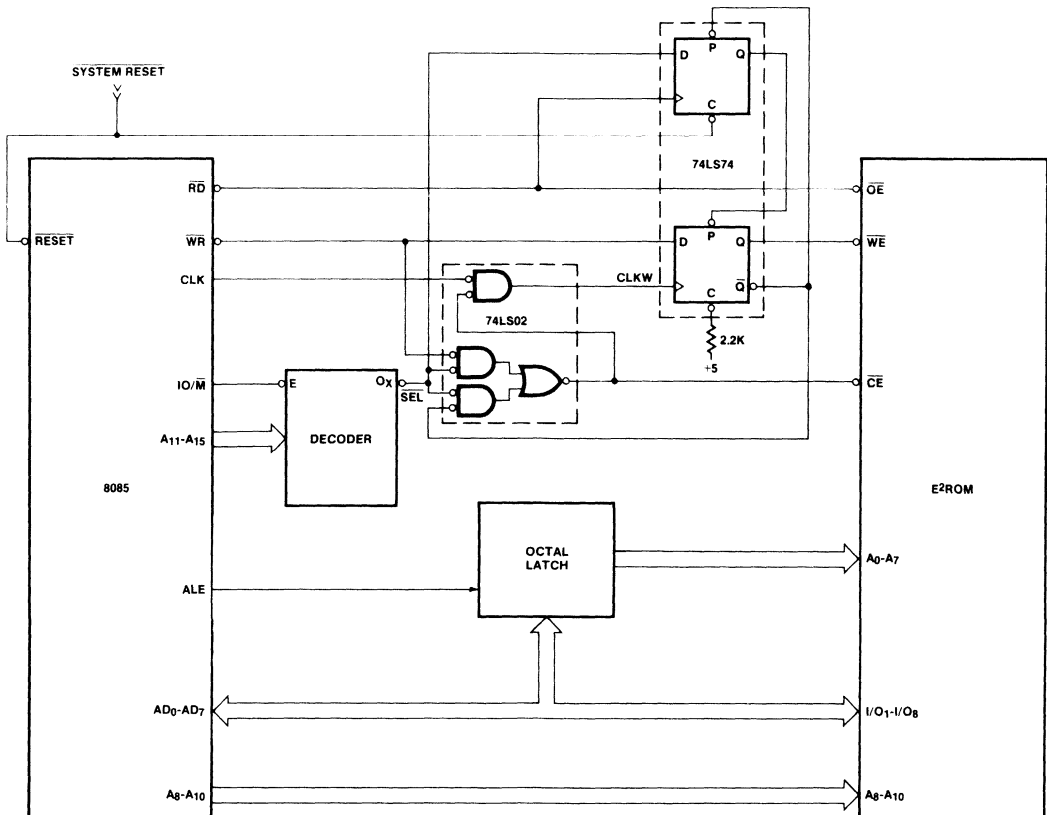

Figure 6. 8085/E2ROM Interface
The schematic for the 8085 interface to a timer or latched E2ROM device is shown in Figure 6. This interface consists of one each of a 74LS02 and 74LS74 type package and allows the system designer to use the WR signal from the 8085 to initiate the write cycle to the E2ROM device. The design permits use of either a timer
The basic write operation waveforms for this interface are shown in Figure 8. The write cycle begins with the addresses becoming valid and being decoded to drive  $\overline{\text{SELECT}}$  active low, in order to drive the  $\overline{\text{CHIP ENABLE}} (\overline{\text{CE}})$  active low at the  $\text{E}^2\text{ROM}$  device pin (selecting the desired device) (see (A) in Figure 6). An active low level on  $\overline{\text{WR}}$  from the 8085 (indicating a write cycle initiation) allows the  $\overline{\text{WRITE ENABLE}}$  latch of the interface to be clocked by the next falling edge of the 8085 clock output (CLK) (see (B)). Addresses, data, and control inputs to the latched type  $\text{E}^2\text{ROM}$  are latched in at the falling edge of  $\overline{\text{WRITE ENABLE}} (\overline{\text{WE}})$  — shown as (B) in Figure 8. For the timer type  $\text{E}^2\text{ROM}$  device, however, data is latched on the rising edge of  $\overline{\text{CHIP ENABLE}} (\overline{\text{CE}})$  — shown as (C) in Figure 8. Note that  $\overline{\text{CE}}$  is held active low for a relatively short period of time, while  $\overline{\text{WRITE ENABLE}} (\overline{\text{WE}})$  is held low
To end the write cycle, the 8085 issues a Read command to the  $\text{E}^2\text{ROM}$  device. This read cycle enables the Write Reset latch which in turn presets the  $\overline{\text{WRITE ENABLE}}$  latch (shown in Figure 6). The preset to the  $\overline{\text{WE}}$  latch brings  $\overline{\text{WE}}$  to  $V_{\text{IH}}$  (see (D) in Figure 8). As indicated in Figure 8, this read cycle does not produce valid data from the  $\text{E}^2\text{ROM}$ . This read cycle is used merely to terminate the write cycle.